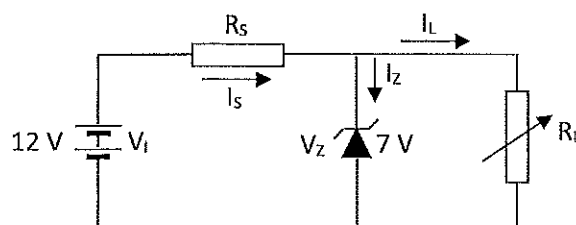

Figure Q5
- The voltage regulator circuit shown in Figure Q5 uses 7V zener diode. The load current is varying from 12 mA to 100 mA. The input supply voltage remains constant at 12V.